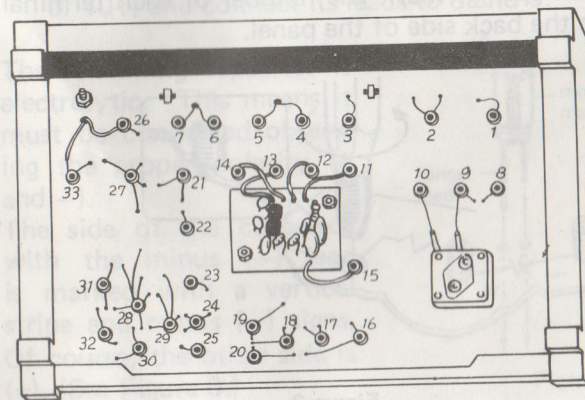
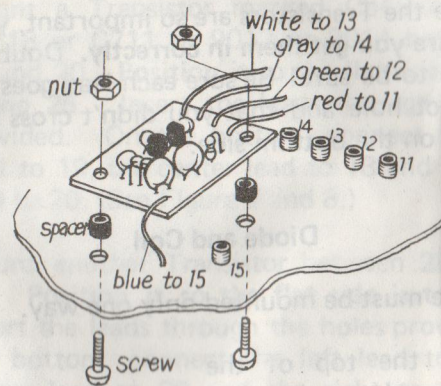

Figure 2 (Bottom View)
Figure 11
- Look at Figure 11 (and Figure 2) and mount the SW Tuner Assembly to the bottom of the Panel Board. Insert the two long screws from the top of the Panel.
- Connect the Red wire to spring terminal 11. (See Figure 11.)